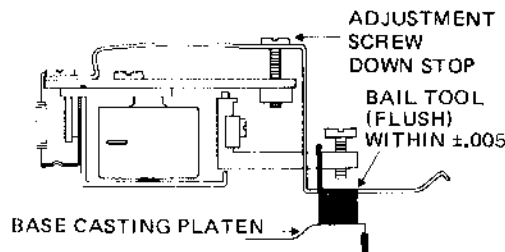

FIGURE 3 HEAD LOAD ACTUATOR DOWN STOP ADJUSTMENT
- Adjust down stop so that the top of Head Load Bail is flush with top of tool within $\pm .005''$ at track 76. Reference Figure 3.